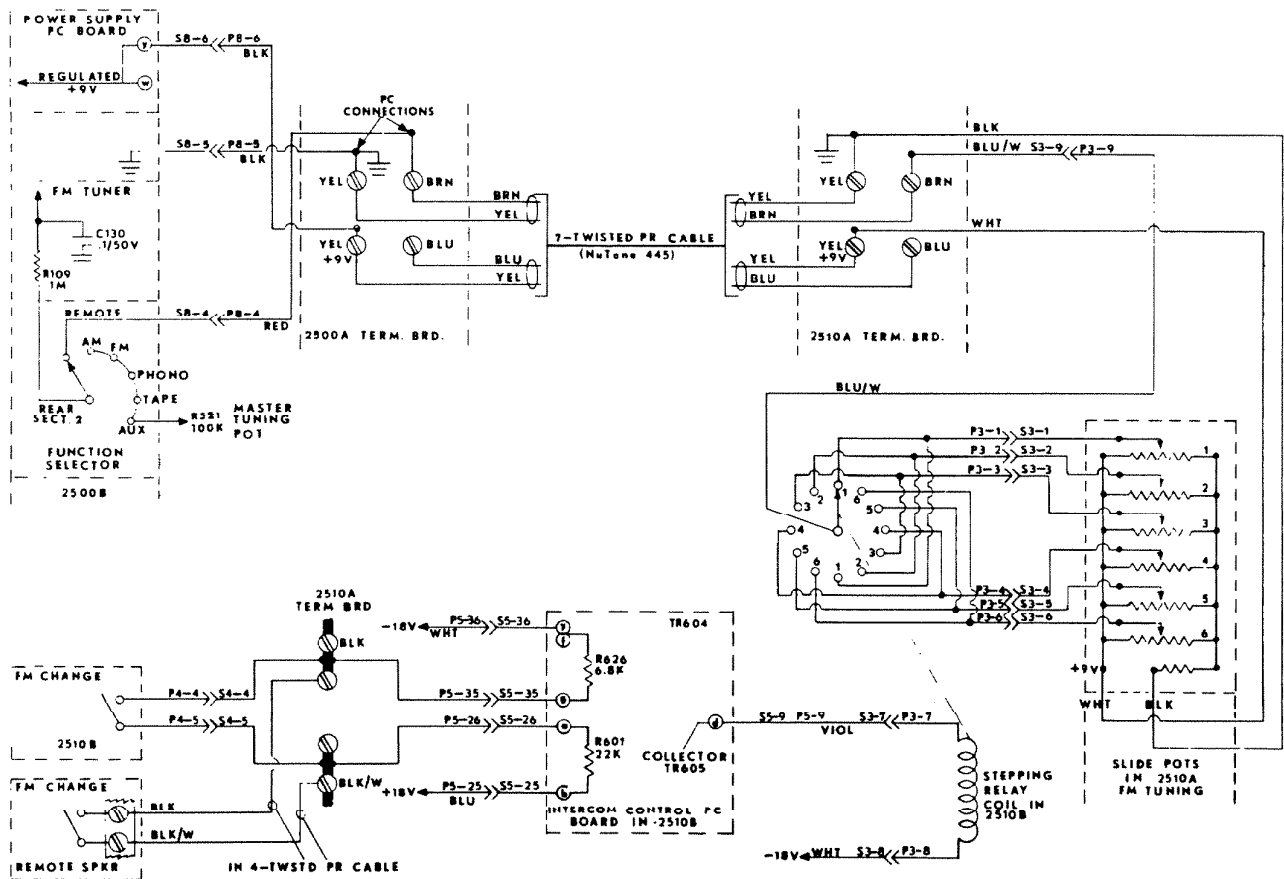

Fig. 1.11 — REMOTE FM STATION SELECTION WIRING DIAGRAM
6. Selection of the slide pot. is accomplished with the step relay in the 2510-B in the following manner. (Fig. 1.11)